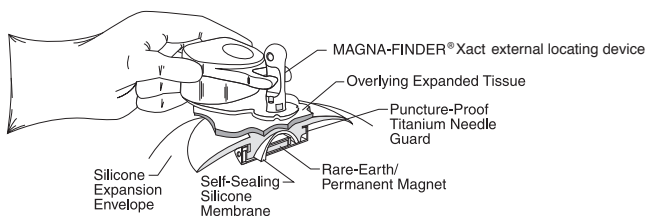

FIGURE 1:
- All injection sites contain a self-sealing port and a titanium needle guard (see **Figure 1**) to prevent inadvertent puncture through the base of the injection site.